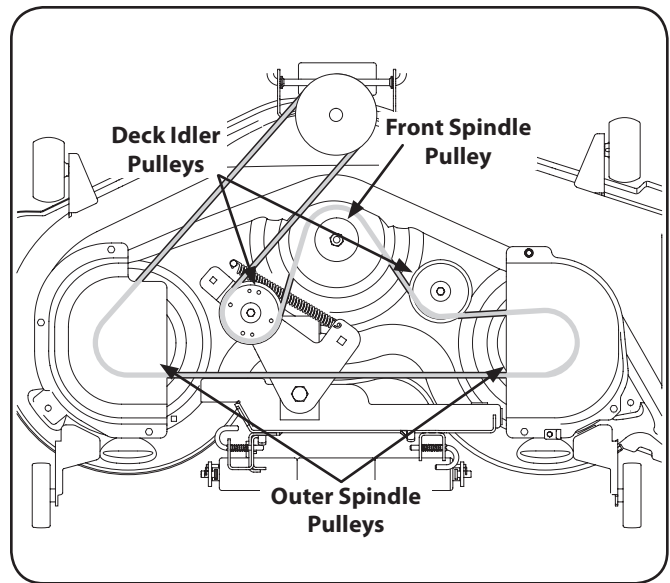

Figure 7-8
4. To place the new belt begin by routing the belt around the two outer spindle pulleys, then around the front spindle pulley as shown in Figure 7-8.
5. Then route the belt around the two deck idler pulleys as shown in Figure 7-8.